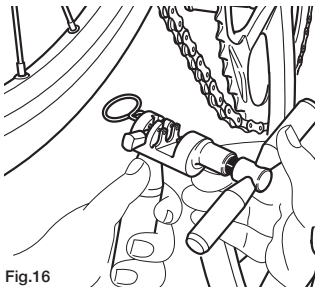

Fig.16
- Position the tool UT-CN400 as indicated in Fig. 16 (from the outside of the chain towards the inside).